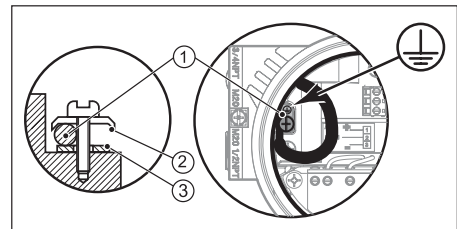

Fig. 4.1 Earth wire connections
- \* If required, mount earth wire (1) between top (2) and bottom (3) ring of earth wire connection (see Figure 4.1).